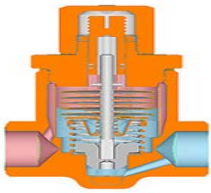

Figure 2 Impulse Trap
- Impulse Type:** These traps operate on the principle that hot water under pressure will flash into steam when the pressure is reduced. A circular baffle keeps the entering steam and condensate from striking a cylinder or disk. Under normal condensate load, the valve opens and closes at frequent intervals. This discharges a small amount of condensate at each opening. With a heavy condensate load, the valve remains open and allows a heavy, continuous discharge of condensate. See Figure 2.